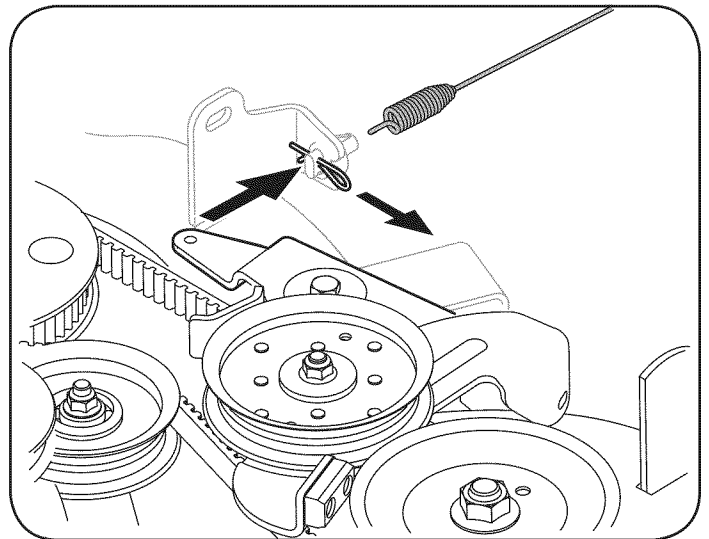

Figure 26
13. Pull the click pin out and unhook the drive spring cable from the idler arm assembly. See Figure 26.